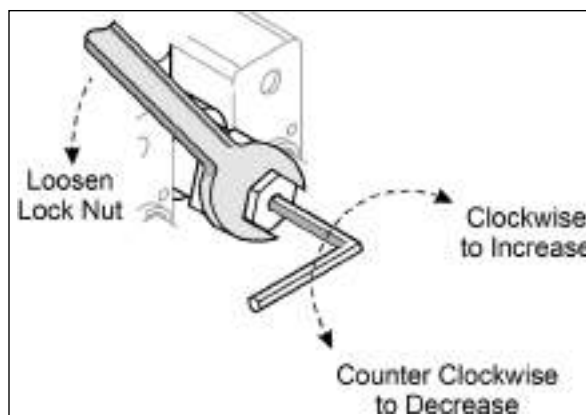

Figure 3-23: Relief Valve
11. Loosen the relief valve jam nut. See Figure 3-23
12. Adjust the valve stem by turning clockwise to increase pressure, counterclockwise to decrease pressure. See Figure 3-23.